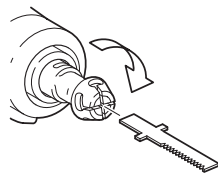

Figure 1 Blade Insertion
2. Rotate the spring-loaded blade collar clockwise aligning the slots. Insert the blade (see figure 1).